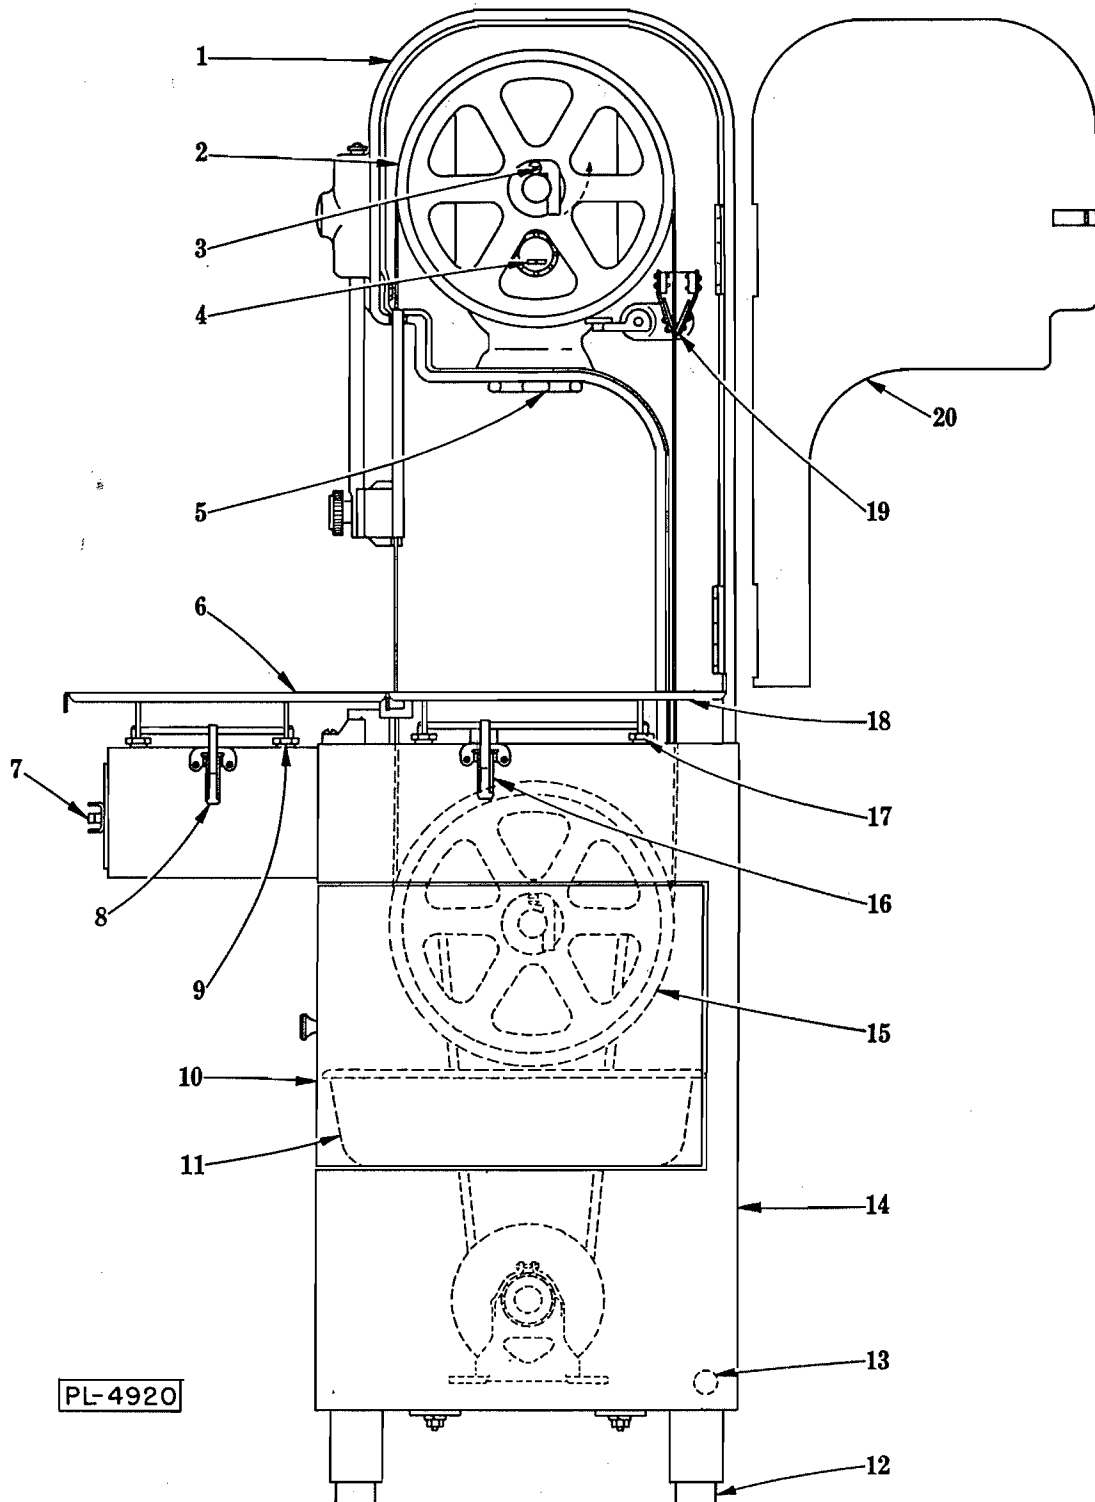
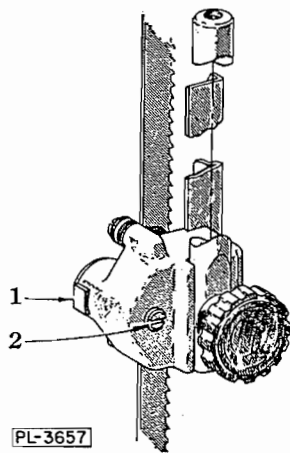
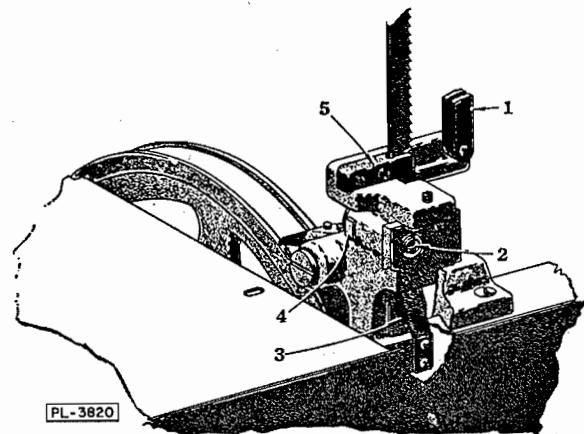
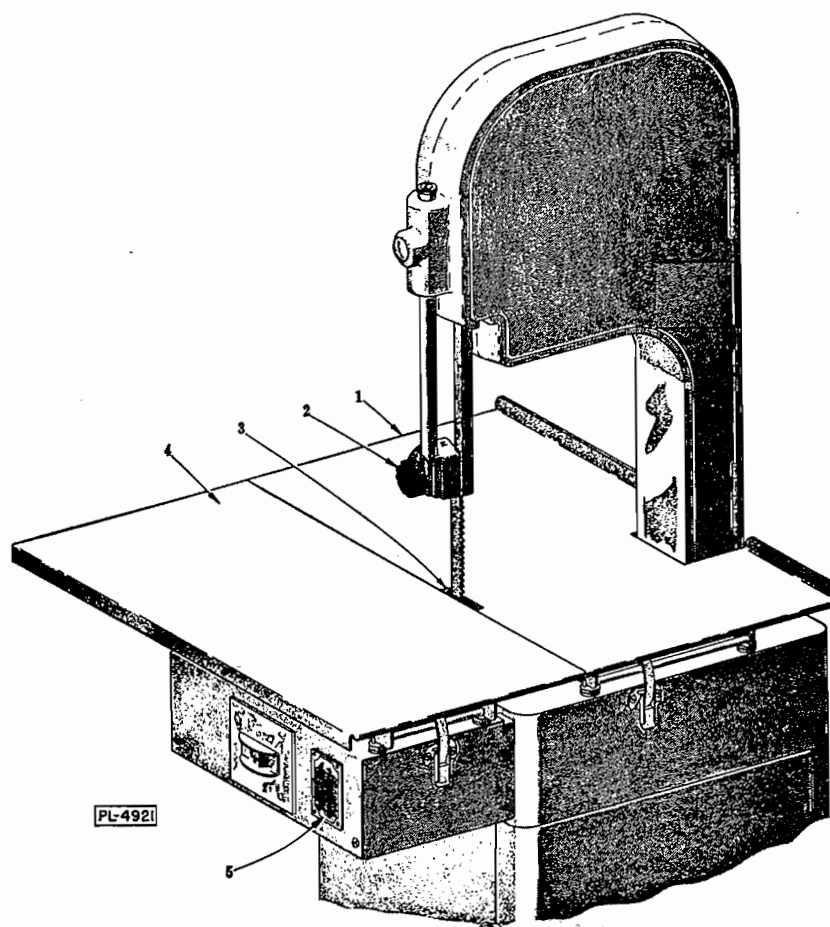

FIG. 1
FIG. 2
FIG. 3
FIG. 4
(1) Place the machine in the location where it is to be used. Assemble the feet (12, Fig. 1). Place a spirit level on top of the base unit and adjust the feet in the legs so that the base unit is level from side to side and front to back.
(2) Lower the upper blade pulley (2, Fig. 1) by giving the tension adjustment hand wheel (5, Fig. 1) a few turns to the left. Open the head door (20, Fig. 1). Lift out the lower wiper unit (Fig. 3) and place the saw blade over the upper (2, Fig. 1) and lower (15, Fig. 1) blade pulleys. The teeth must point to the right and downward when viewed from the front as shown in Fig. 3. If they do not point downward, remove the blade, twist inside out and replace it on the saw. Make sure the blade is centered in the upper blade wiper (19, Fig. 1) and properly placed in the upper guide unit (Fig. 2).
Turn the tension adjustment hand wheel (5, Fig. 1) to the right until the tension indicator (4, Fig. 1) reads "2". Give the upper pulley a few turns by hand so that the blade centers itself on the pulleys, then turn the tension adjustment hand wheel slowly to the right until the indicator registers between "3" and "4". This is the best operating tension for the blade.
(3) Put in the lower wiper unit (Fig. 3). Before sliding it into place, swing up the bakelite guard (1, Fig. 3) and see that the saw blade is between the two wipers (3, Fig. 3) and in the guide slot of steel block (5, Fig. 3). After sliding the unit into place, close down the bakelite guard (1, Fig. 3).
(4) Put on the table (1, Fig. 4). Locate table in position by the locating block (3, Fig. 4), being sure the support angles on the underside of the table are inside the locating pins of the four table rests (17, Fig. 1) on the base (14, Fig. 1). Then lock in place by closing the table clamps (16, Fig. 1) at each end.
(5) Assemble the table extension (4, Fig. 4) with the support angles on the underside of the extension inside the four table rests (9, Fig. 1). The locating block (3, Fig. 4) is used for positioning the extension. Lock in place by closing the table clamps (8, Fig. 1) at each end.
Before connecting to the power line, check the data on the name plate (5, Fig. 4) to make sure that the motor is correct for your electric service. Make your installation connection from the power line directly to the switch (7, Fig. 1). In order to avoid having conduit at the front of the machine, it is recommended that flexible (or rigid) conduit be connected through the electric inlet hole (13, Fig. 1) in the base (14, Fig. 1). The motor and switch are connected at the factory.
(1) **UPPER GUIDE ASSEMBLY** (Fig. 2). Keep as low as the size of the work permits.
(3) **DOORS**. Keep doors (10 & 20, Fig. 1) closed when the machine is running.
(1) Release table clamps (8, Fig. 1) and lift off table extension (6, Fig. 1).
(2) Release table clamps (16, Fig. 1) and remove stainless steel table (18, Fig. 1).
(3) Loosen hand knob (that retains upper blade wiper), bump with hand to loosen stud and then remove hand knob. Open head door (20, Fig. 1) and lift out upper blade wiper (19, Fig. 1). Clean unit and lubricate with TASTELESS oil.
(4) Swing lower saw blade guard (1, Fig. 3) up and lift out lower wiper assembly. Clean unit thoroughly and LUBRICATE WITH TASTELESS OIL.
(5) Remove Scrap pan (11, Fig. 1).
(6) Release blade tension by turning tension adjusting hand wheel (5, Fig. 1) to the left. Open head door and swing the upper blade guard down to horizontal position. Remove saw blade.
(7) To remove the upper guide unit (Fig. 2), remove the hand knob (2, Fig. 4) (blade tension already released) then lift off unit. Clean, lubricate with TASTELESS oil and replace.
(8) Remove upper and lower pulleys by swinging the pulley retaining latches (3, Fig. 1) clear of the shafts. Slide pulleys off. Clean pulleys and oil bore before replacing.
(1) Release table clamps and lift off table extension.
(2) Release table clamps and remove table.
(3) Lower upper blade pulley by turning tension adjusting hand wheel to left.
(4) Open head door and swing upper blade guard to horizontal position. Swing up lower blade guard and remove blade.
(5) Put on the new blade, turn the hand wheel to the right until the indicator reads "2", turn the upper blade pulley (2, Fig. 1) by hand to center the blade, and then turn the hand wheel
until the indicator registers between "3" and "4". Make sure the upper blade wipers (19, Fig. 1) are on both sides of blade.
At the back edge of the saw blade in the upper guide (1, Fig. 2) and the front lower wiper unit (4, Fig. 3) are special tungsten carbide blade back-up blocks (eliminating the old fashioned ball bearing back-up). These special blocks take the cutting thrust. The clearance between these blocks and the blade, with the saw running with-
NOTE: Adjust the upper back-up block (1, Fig. 2) by turning screw (2, Fig. 2) and lower back-up block (4, Fig. 3) by turning the screw (2, Fig. 3).